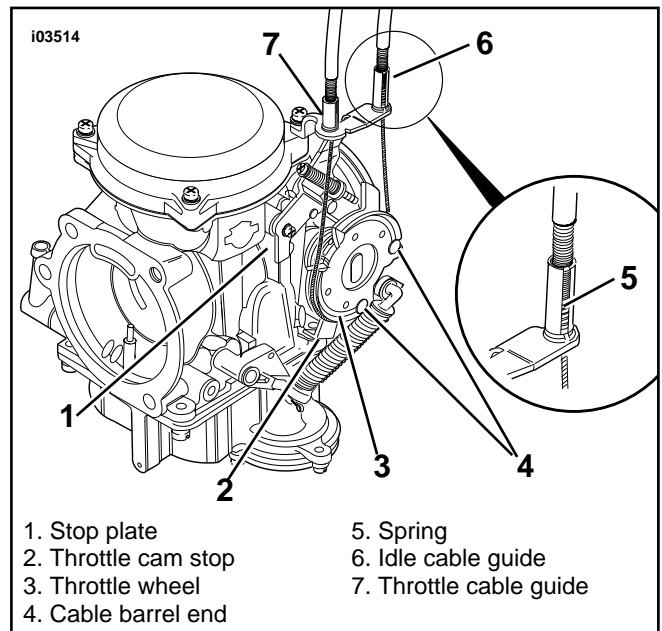

Figure 5. Throttle Cable Assembly
12. See Figure 5. Remove the cables at the carburetor. Using slots, remove the cable barrel ends from the holes in the throttle wheel and release the cable housings from the guides on the carburetor cable bracket.
44. Refer to Figure 5. Install the idle cable housing and spring into the longer cable guide on the carburetor cable bracket. Drawing the idle cable downward, fit the barrel end into the hole in the throttle wheel (farthest from the cam stop).